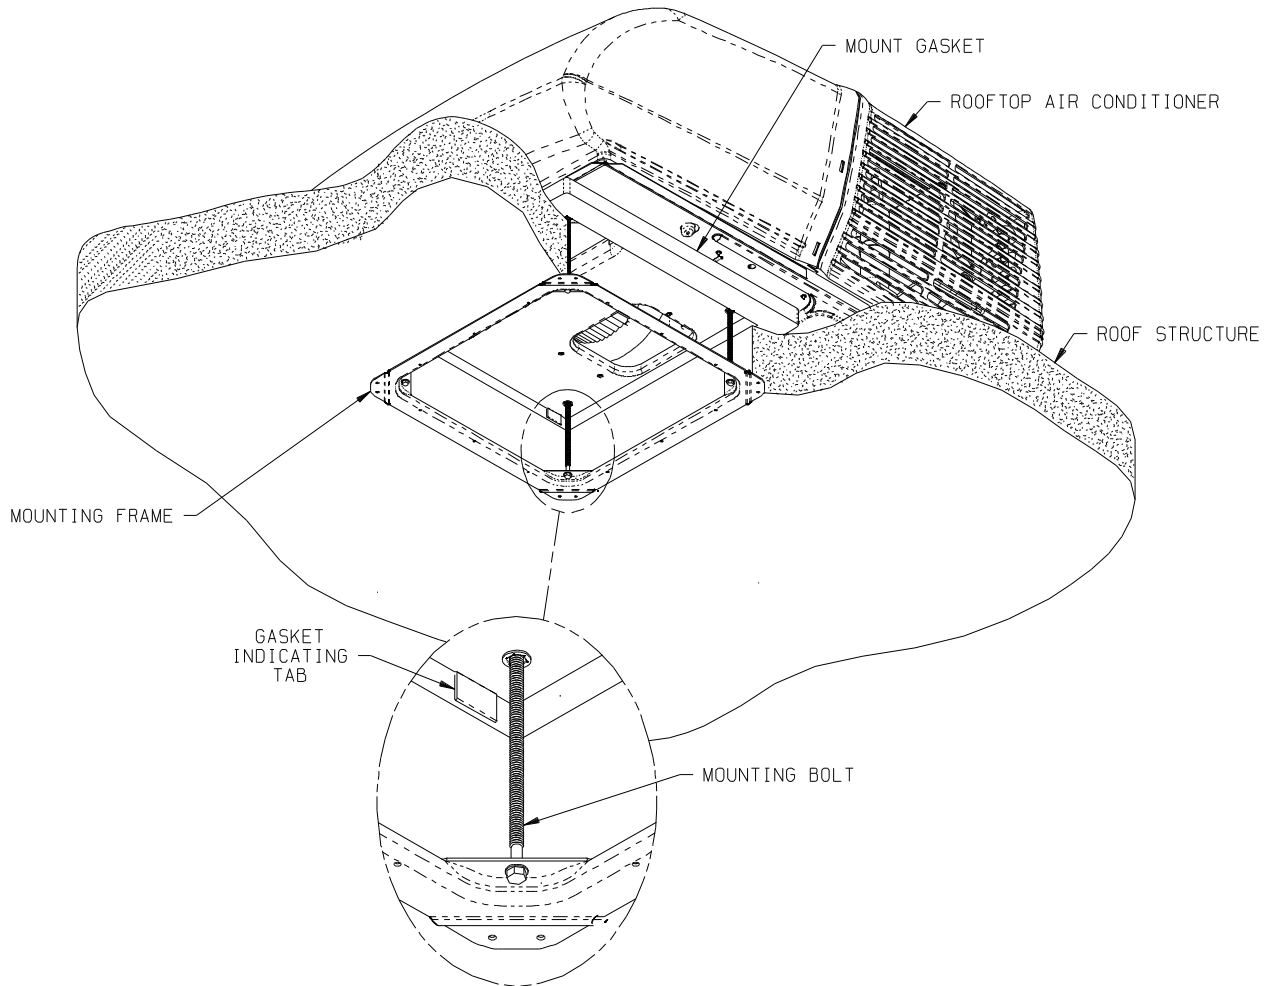

FIGURE 5
A mounting frame is supplied with the ceiling assembly. Follow the steps below to secure the air conditioner to the roof. Refer to Figure 5.
- C. Proper tension has been achieved for each bolt when any portion of each gasket indicating tab has been pulled down even with the roof. See Figure 5. The upper unit has now been properly installed with optimum gasket compression.